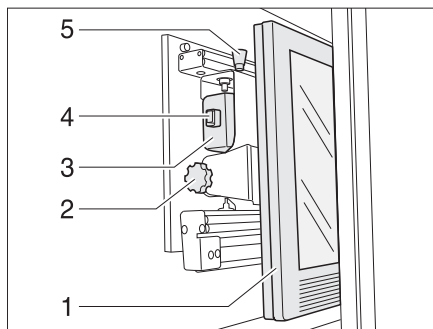

Fig. 122 TV cabinet
- Press the release knob (Fig. 122,5) and pull the holder for the flat screen forward as far as possible by the handle (Fig. 122,4).
- Pull the release knob (Fig. 122,1) and swivel flat screen (Fig. 122,2) to the desired position.
- Loosen knurled screw (Fig. 122,3).